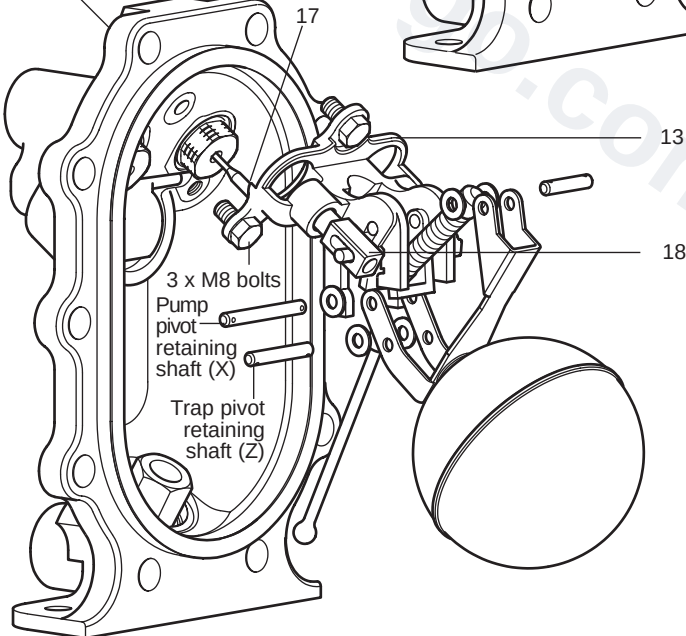

Fig. 7
4. Remove the split pin and washer from one side of trap pivot retaining shaft (Z) and carefully remove.
5. Carefully slide the shafts out from their respective positions observing the orientation of the spring and actuator arm (item 14, 24) within the pump bracket (item 13) as these will need to be refitted later.
6. Remove the split pin and washer from one side of pump pivot retaining shaft (X).
7. To remove shaft (X), the whole pump bracket (13) will need to be separated from the cover. This can be done by unscrewing the three M8 retaining bolts, and **removing the circlip from the steam inlet valve** (17). Remove the pump pivot retaining shaft (X).
10. It is easier to fit the replacement shafts in the following sequence:- (See Fig. 7).